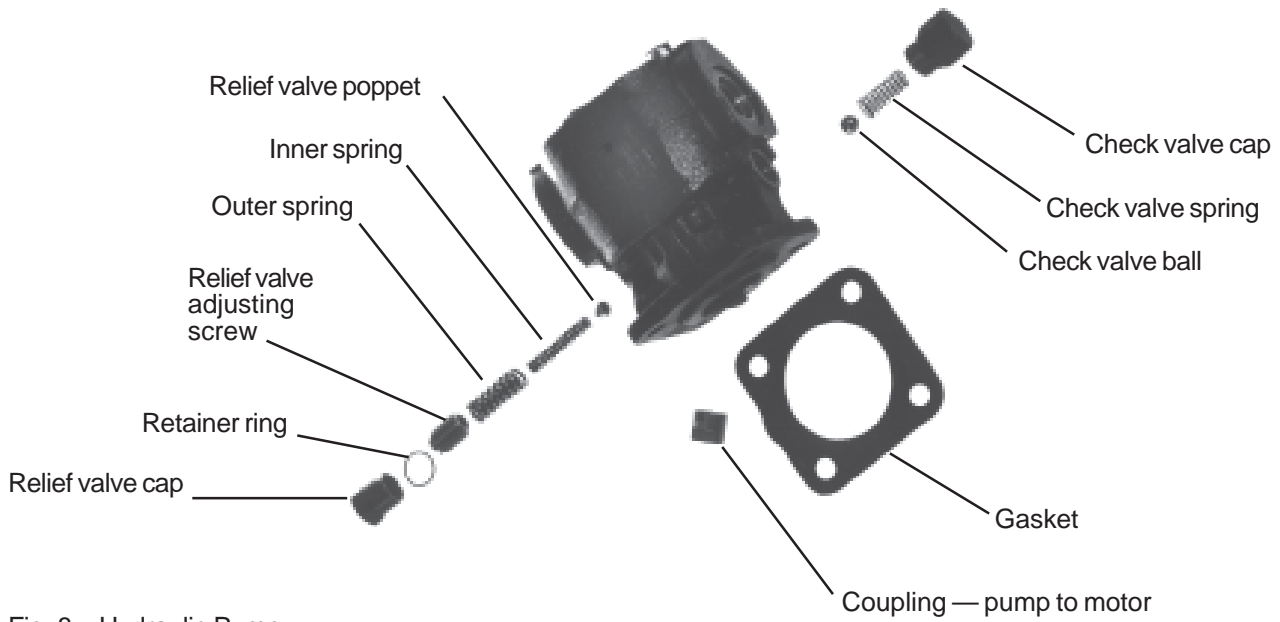

Fig. 8 Hydraulic Pump
9. If the pump has been hanged, the coupling may not have been installed between the motor and the pump. See the pump assembly in Fig. 8.